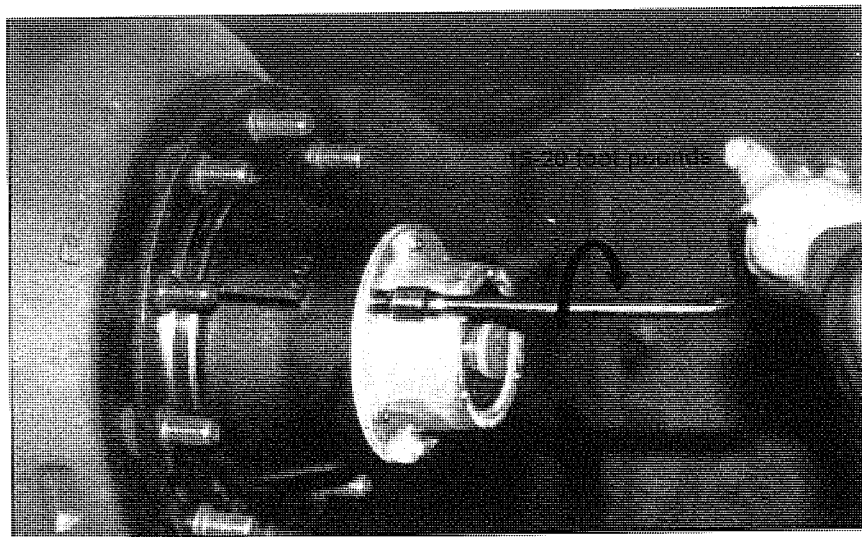

Figure II-12: Hub cap and gasket installed, and cap screws tightened to fifteen (15) to twenty (20) foot pounds.
- l. Install the hub cap with proper gasket, as seen in Figure II-12. Tighten the cap screws of the hub cap to fifteen (15) to twenty (20) foot-pounds of torque.